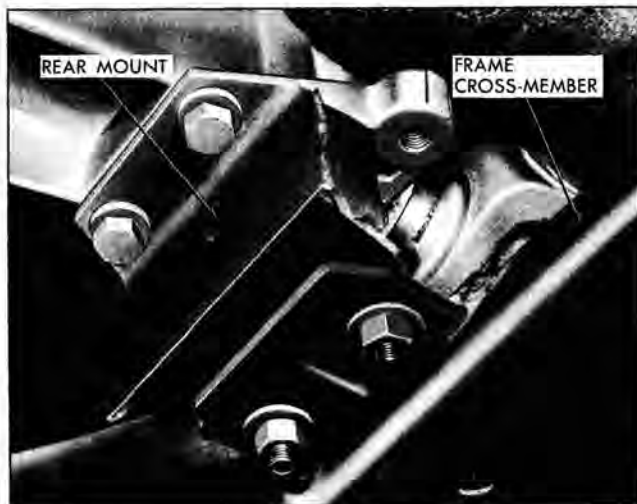

Fig. 44 Rear Mount Assembly
15. Remove two rear mount to frame crossmember nuts (Fig. 44).